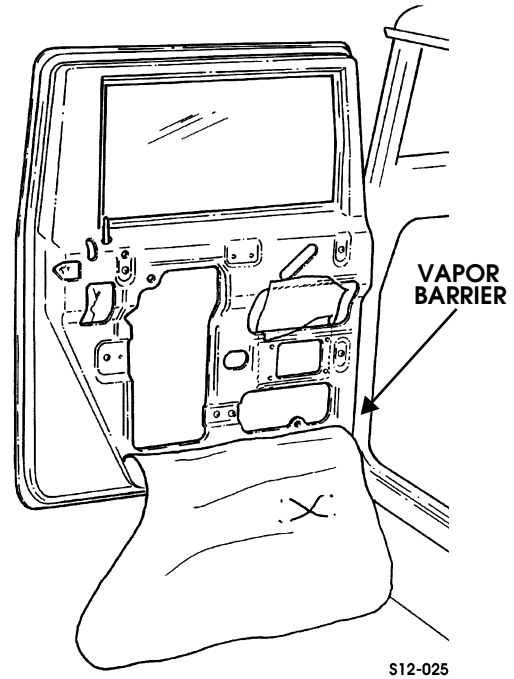

Figure 12-103: Vapor Barrier Removal/Installation
3. Remove vapor barrier (Figure 12-103).
5. Install vapor barrier (Figure 12-103).